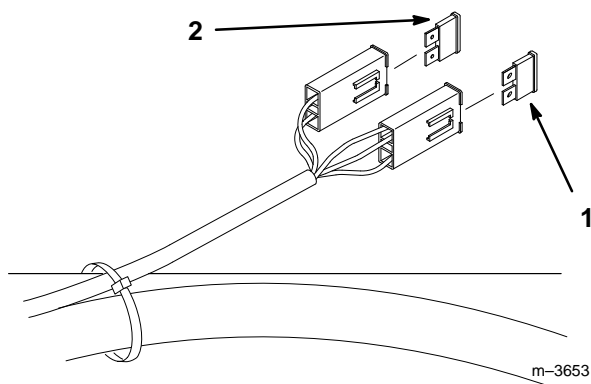

Figure 47
1. Raise the seat to gain access to fuse holder (Fig. 47).
2. To replace fuses pull out on the fuse to remove it (Fig. 47).